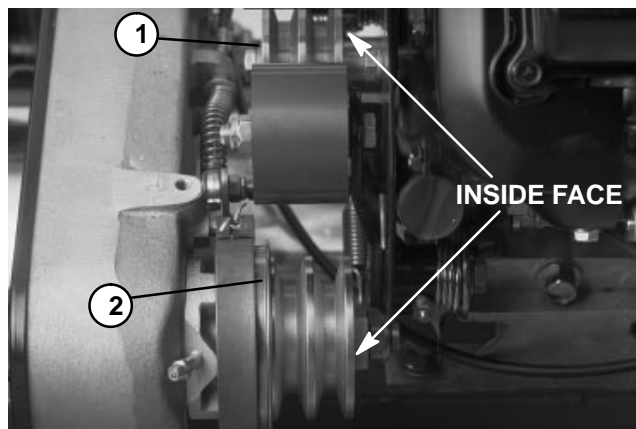

Figure 6
Note: Engine speed is measured at the input drive pulley (Fig. 6). Actual engine speed is twice the input drive pulley speed.
A. Inside pulley faces should be flush to each other to within 0.030 inch (0.762 mm) maximum (Fig. 6).